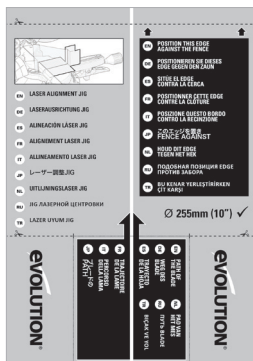

Fig. 8c
- Place the cardboard laser jig (**Fig. 8c**) onto the rotary table.